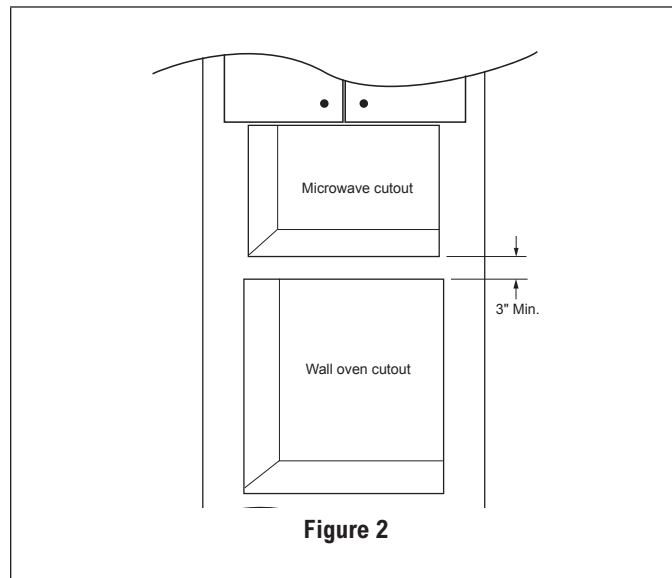
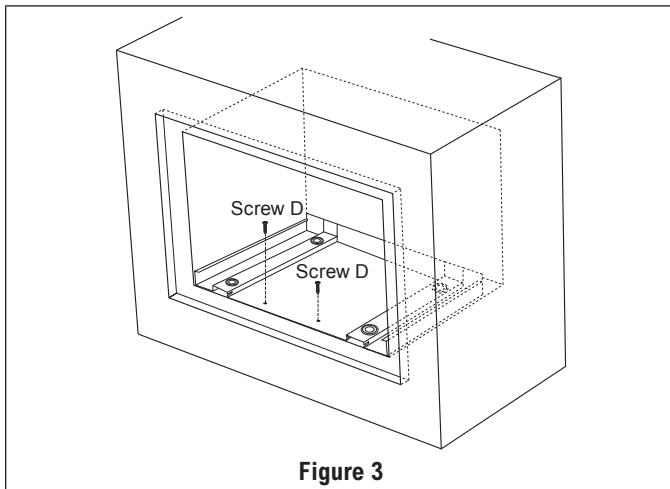

Figure 2
Figure 3
- Please allow minimum 3" wood gap between the microwave oven cutout and the appliance cutout below the microwave oven. See Figure 2.
- If the dimension of DEPTH (C) is more than 21" (533.4 mm), the outlet location may be any area on the rear wall.
- Secure the EXHAUST DUCT ASSEMBLY with 2 SCREWS D. See Figure 3.
- Allow minimum 3" (76 mm) wood gap between the microwave oven cutout and the appliance cutout below the microwave oven. See Figure 2.
1. Place the Exhaust Duct Assembly in the center of the opening. Align the front edge of the duct with the front of the cabinet. Align the front edge of the right side of the duct with the front of the shelf. See Figure 3.
2. Secure the Exhaust Duct Assembly with 2 SCREWS D. See Figure 3.